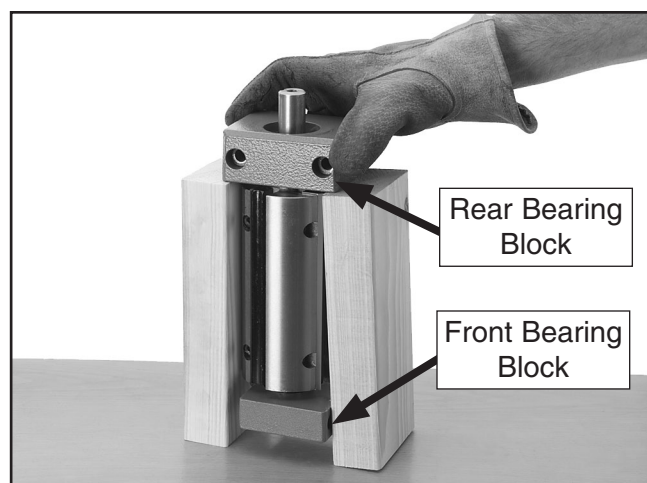

Figure 6. Removing rear bearing block.
12. Place the cutterhead assembly on a workbench or flat surface, with the pulley side of the cutterhead shaft facing up, then place the 2x4 blocks under the rear bearing block, as shown in **Figure 6**.